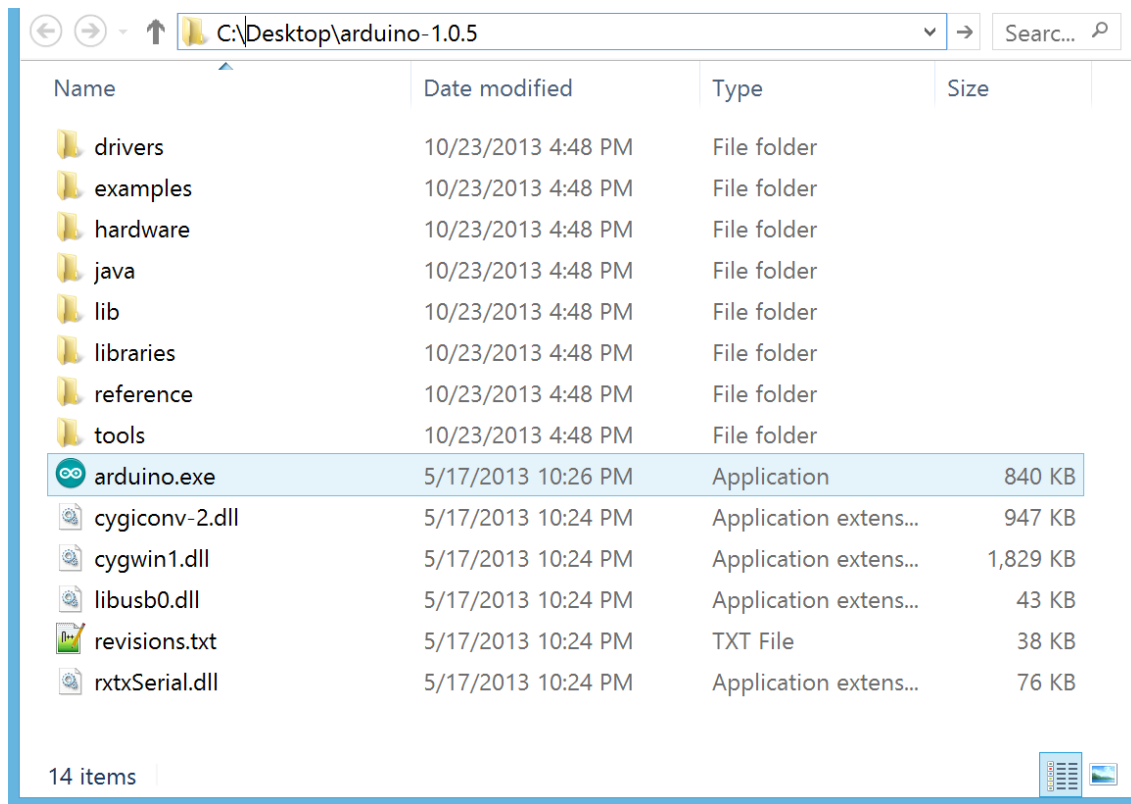

Figure 2.9: The unzipped Arduino 1.0.5 files
- Open the folder and there is a file named "**arduino.exe**" (Figure 2.9). It is the executable program of the Arduino IDE software. No further installation is needed.